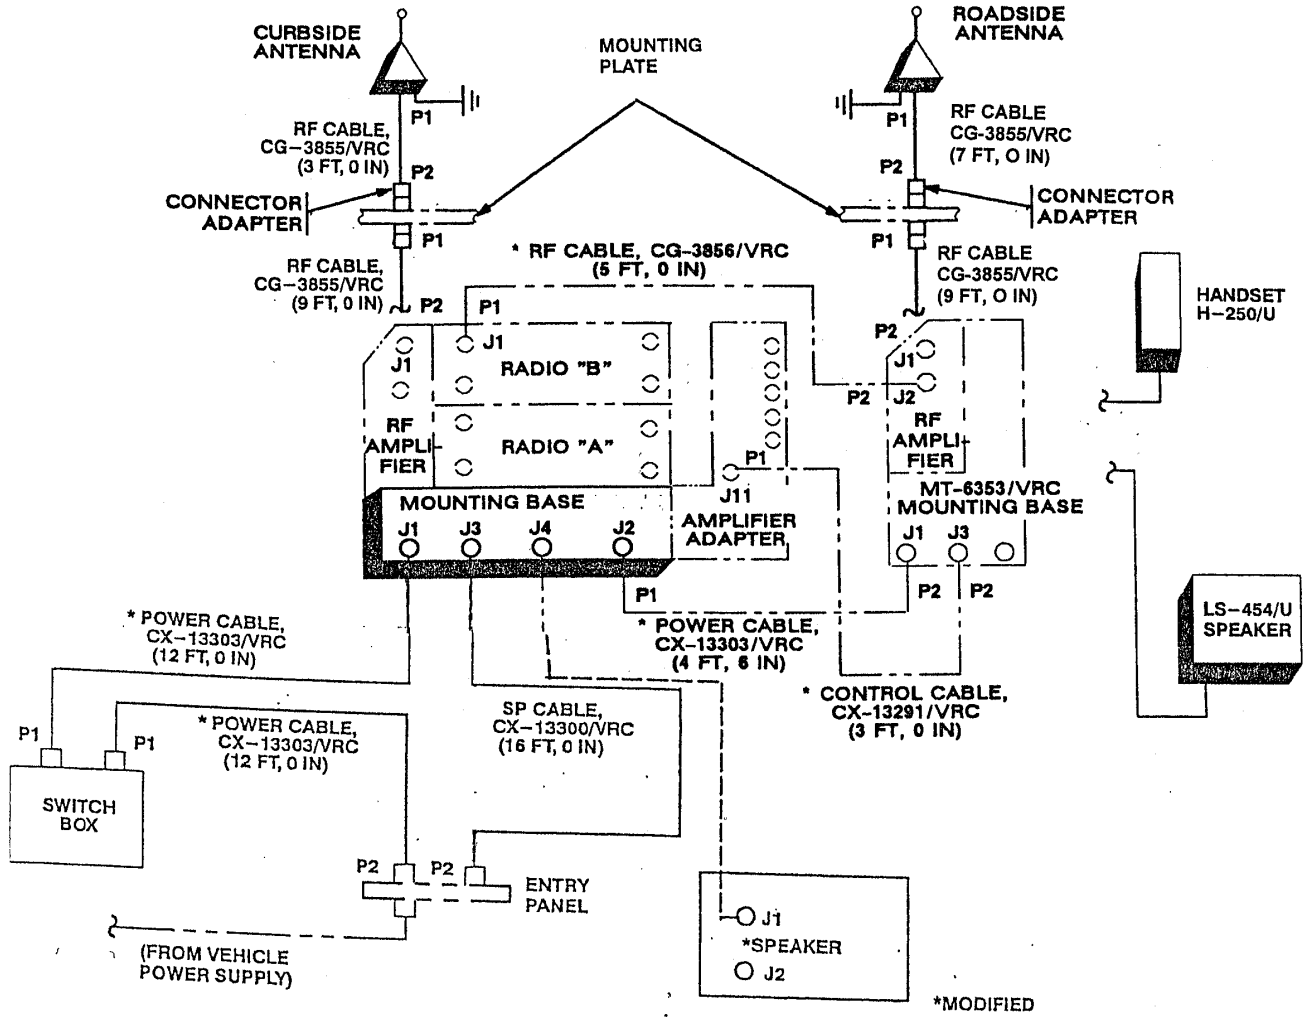

Figure 5-9. Cable Diagram - AN/VRC-92 Series
b. Cables.	Check for proper installation and connection of cables. See figure 5-9 for cable connections. Unused cables should be stowed in appropriate place inside the vehicle.
e. Radio issued with vehicle.	Install and connect cables. See TM 11-5820-890-20-1 and TM 11-5820-890-20-1 for installation and operational (OP) checks and instructions.